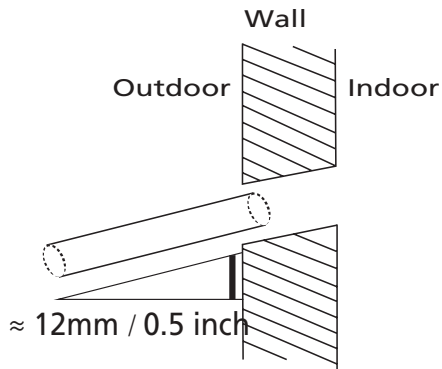

Fig. 6.5
- Using a 65-mm (2.5") core drill, drill a hole in the wall. Make sure that the hole is drilled at a slight downward angle, so that the outdoor end of the hole is lower than the indoor end by about 12mm (0.5"). This will ensure proper water drainage (See Fig. 6.5). Place the protective wall cuff in the hole. This protects the edges of the hole and will help seal it when you finish the installation process.